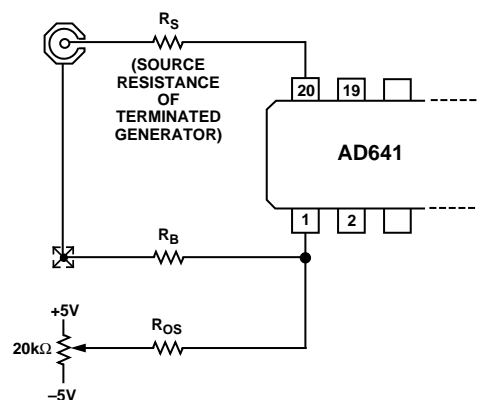

Figure 25. Optional Input Offset Voltage Nulling Circuit; See Text for Component Values
In most applications there will be no need to use any offset adjustment. However, a general offset trimming circuit is shown in Figure 25. R_S is the source resistance of the signal. *Note: 50 Ω rf sources may include a blocking capacitor and have no dc path to ground, or may be transformer coupled and have a near zero resistance to ground.* Determine whether the source resistance is zero, 25 Ω or 50 Ω (with the generator terminated in 50 Ω) to find the correct value of bias compensating resistor, R_B , which should optimally be equal to R_S , unless $R_S = 0$, in which case use $R_B = 5$ Ω . The value of R_{OS} should be set to 20,000 R_B to provide a ± 250 μV trim range. To null the offset, set the source voltage to zero and use a DVM to observe the logarithmic output voltage. Recall that the LOG OUT current of the AD641 exhibits an *absolute value response* to the input voltage, so the offset potentiometer is adjusted to the point where the logarithmic output "turns around" (reaches a local maximum or minimum).
R4 is identical to R2, and in shunt with R3 ($270\ \Omega$ thin film) forms a $27\ \Omega$ resistor with the same TC as the output resistance of the attenuator. By connecting Pin 1 to ATN LOW (Pin 2) this resistance minimizes the offset caused by bias currents. The offset nulling scheme shown in Figure 25 may still be used, with the external resistor R_B omitted and $R_{OS} = 500\ \text{k}\Omega$. Offset stability is improved because the compensating voltage introduced at Pin 20 is now PTAT. Drifts of under $1\ \mu\text{V}/^\circ\text{C}$ (referred to Pins 1 and 20) can be maintained using the attenuator.
Cascaded AD641s can be used in dc applications, but input offset voltage will limit the dynamic range. The dc intercept is $6 \mu\text{V}$. *The offset should not be confused with the intercept*, which is found by *extrapolating* the transfer function from its central “log linear” region. This can be understood by referring to Equation (1) and noting that an input offset is simply additive to the value of V_{IN} in the numerator of the logarithmic argument; it does not affect the denominator (or intercept) V_X . In dc coupled applications of wide dynamic range, special precautions must be taken to null the input offset and minimize drift due to input bias offset. It is recommended that the input attenuator be used, providing a practical input range of -74 dBV ($\pm 200 \mu\text{V}$ dc) to $+6 \text{ dBV}$ ($\pm 2 \text{ V}$ dc) when nulled using the adjustment circuit shown in Figure 25.